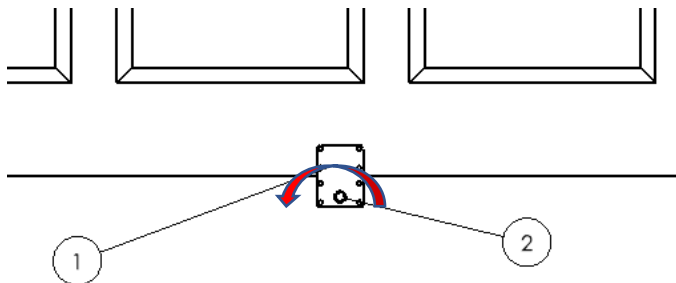

Figure 3.6
On the driver's side of the box turn the spring assembly shaft (2) counterclockwise until the shaft engages with the spring. (Figure 3.6)